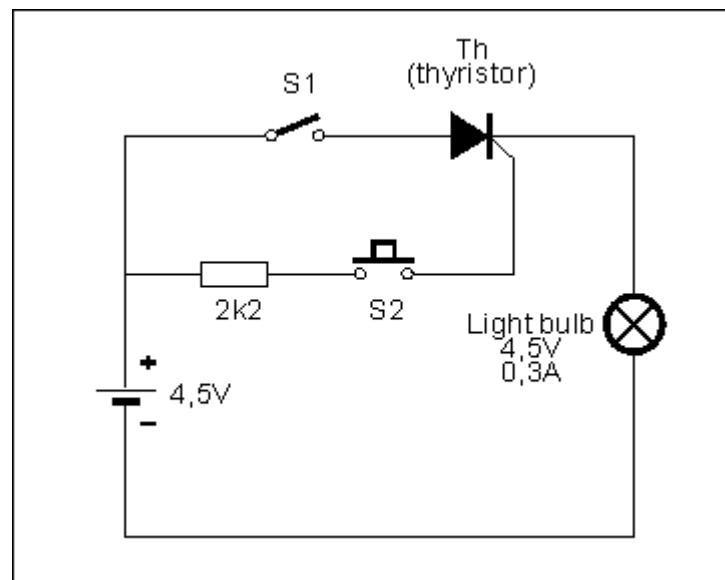

Fig. 6.3: Thyristor principle of work
A thyristor is an improved diode. Besides anode (A) and cathode (k) it has another lead which is commonly described as a gate (G), as found on picture 6.2a. The same way a diode does, a thyristor conducts current when the anode is positive compared to the cathode, but only if the voltage on the gate is positive and sufficient current is flowing into the gate to turn on the device. When a thyristor starts conducting current into the gate is of no importance and thyristor can only be switched off by removing the current between anode and cathode. For example, see figure 6.3. If S1 is closed, the thyristor will not conduct, and the globe will not light. If S2 is closed for a very short time, the globe will illuminate. To turn off the globe, S1 must be opened. Thyristors are marked in some circuits as SCR, which is an acronym for Silicon Controlled Rectifier.